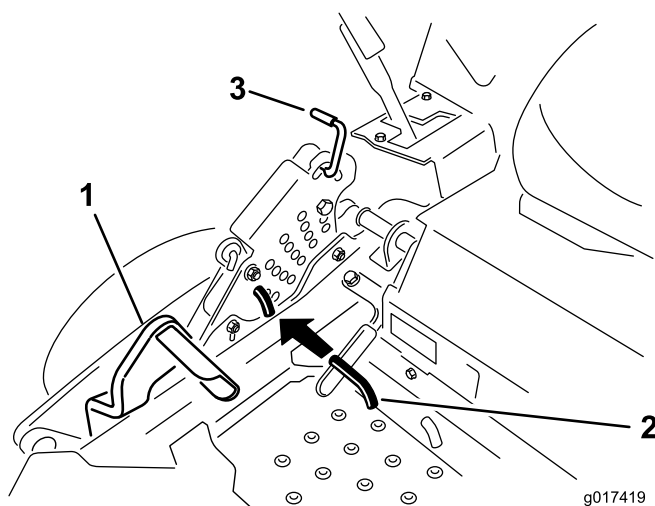

Figure 72
5. Push the deck-lift pedal all the way forward and the deck will latch at the 14 cm (5-1/2 inches) transport position (Figure 72).